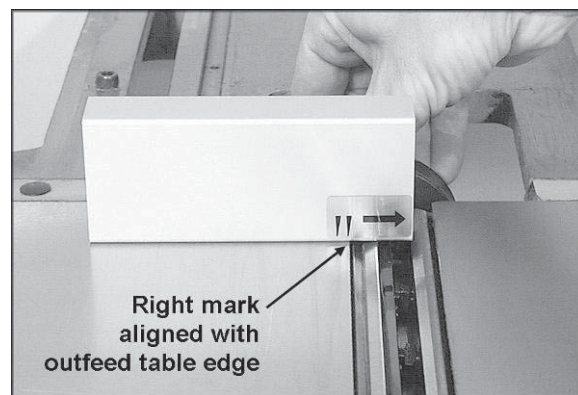

Figure 29 (straight cutterhead)
8. An aluminum knife setting gauge, shown in Figure 29, is provided with the jointer. If you require very fine tolerances when setting the knives, a knife setting gauge with a dial readout can be purchased. The provided aluminum gauge should, however, be accurate enough for most woodworking needs.
9. Place the provided knife setting gauge at the back of the outfeed table (toward the fence support side) and extending over the cutterhead as shown in Figure 29. Place the gauge so that the right mark lines up with the edge of the outfeed table, as shown.